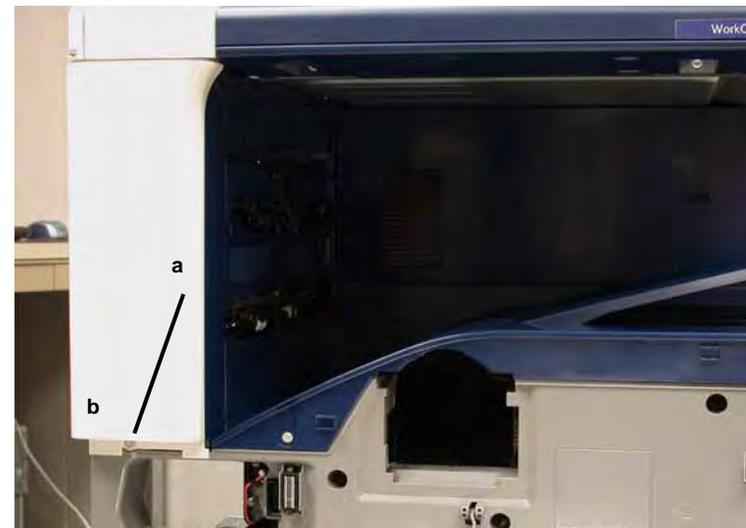

Figure 3 Removing Covers
4. Remove the Front Left Cover and Exit Front Cover (Figure 3).
- a. Remove the Screw (1).